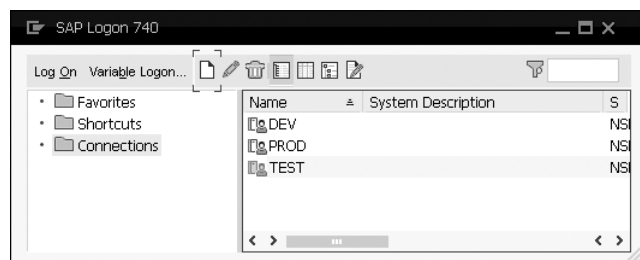

Figure 5.2 Selecting System for Logon
- 2 The configured SAP systems are displayed in the **Systems** tab of the opened SAP Logon. To log on to the required system, select the name (in this case, **PROD** for production system), and click the **Log On** button (Figure 5.2).
Most businesses deploy various SAP systems besides the one that you use in your daily work. Figure 5.2 also shows the development system (DEV) and the test system (TEST).